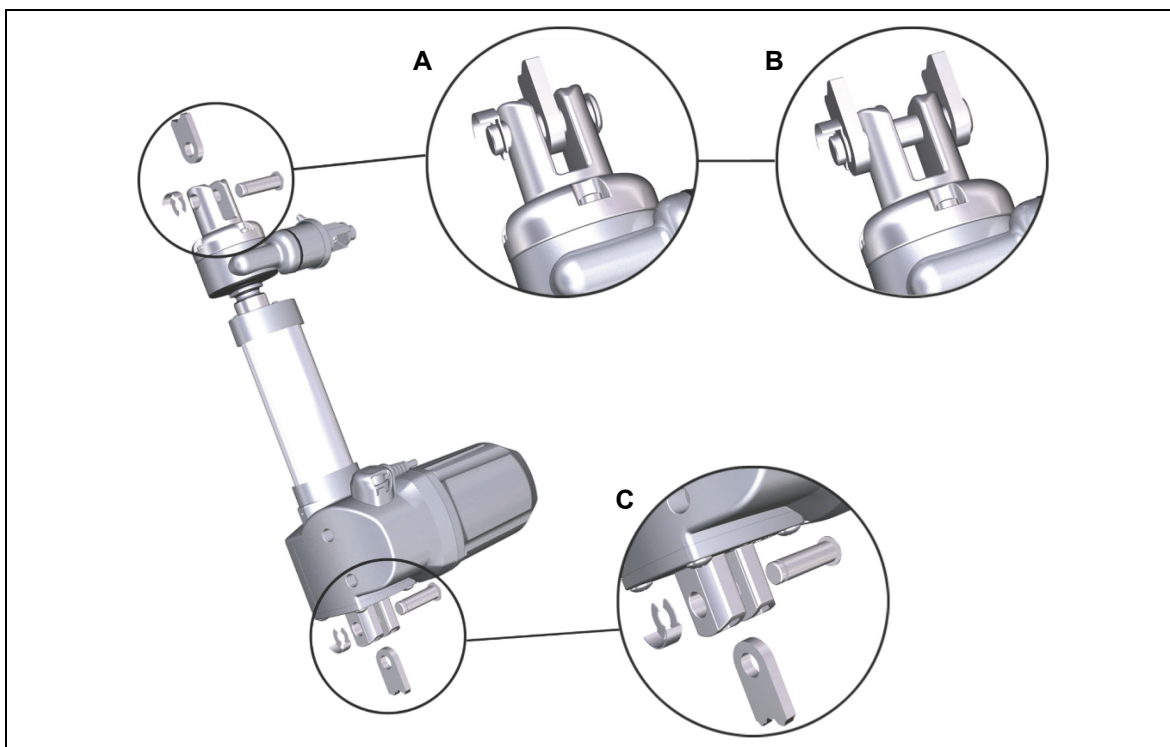

Figure 19 Recommended design of bracket
The brackets should be aligned precisely with each other. We recommend that only one mounting bracket is used on both sides of the drive (as shown by **A** in Figure 19). When two mounting brackets are used, there is a greater risk that they are not properly aligned, resulting in a tilted drive unit.
The drive must be firmly attached, but there should also be a certain degree of movability at the mounting points. The drive must be mounted so that it is protected in all positions against twisting and bending. You can also use brackets with two mounting holes (as shown by **B** in Figure 19), but these must be exactly aligned so that the release force is not increased.
- We recommend: an oval slot (as shown by **C** in Figure 19) should have at least 2 millimetres of extra room.